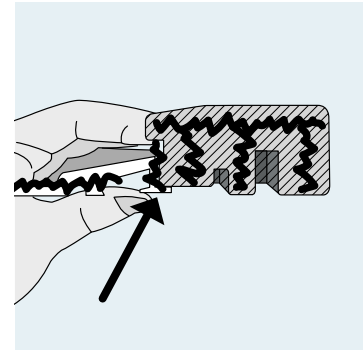

Figure 6: It's important to apply plenty of sealant in the groove
- b. Apply narrow joint sealant by laying a continuous bead along the entire end profile – on both the wooden and aluminium parts (figure 6).